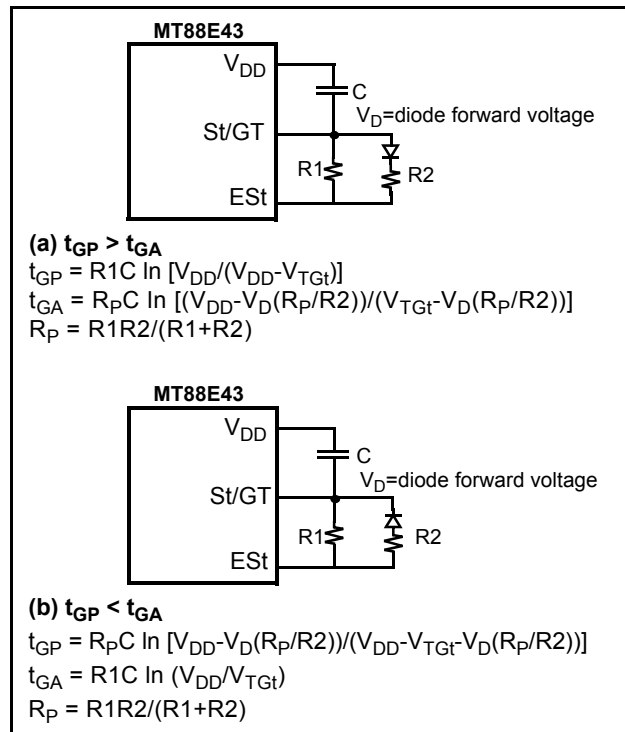
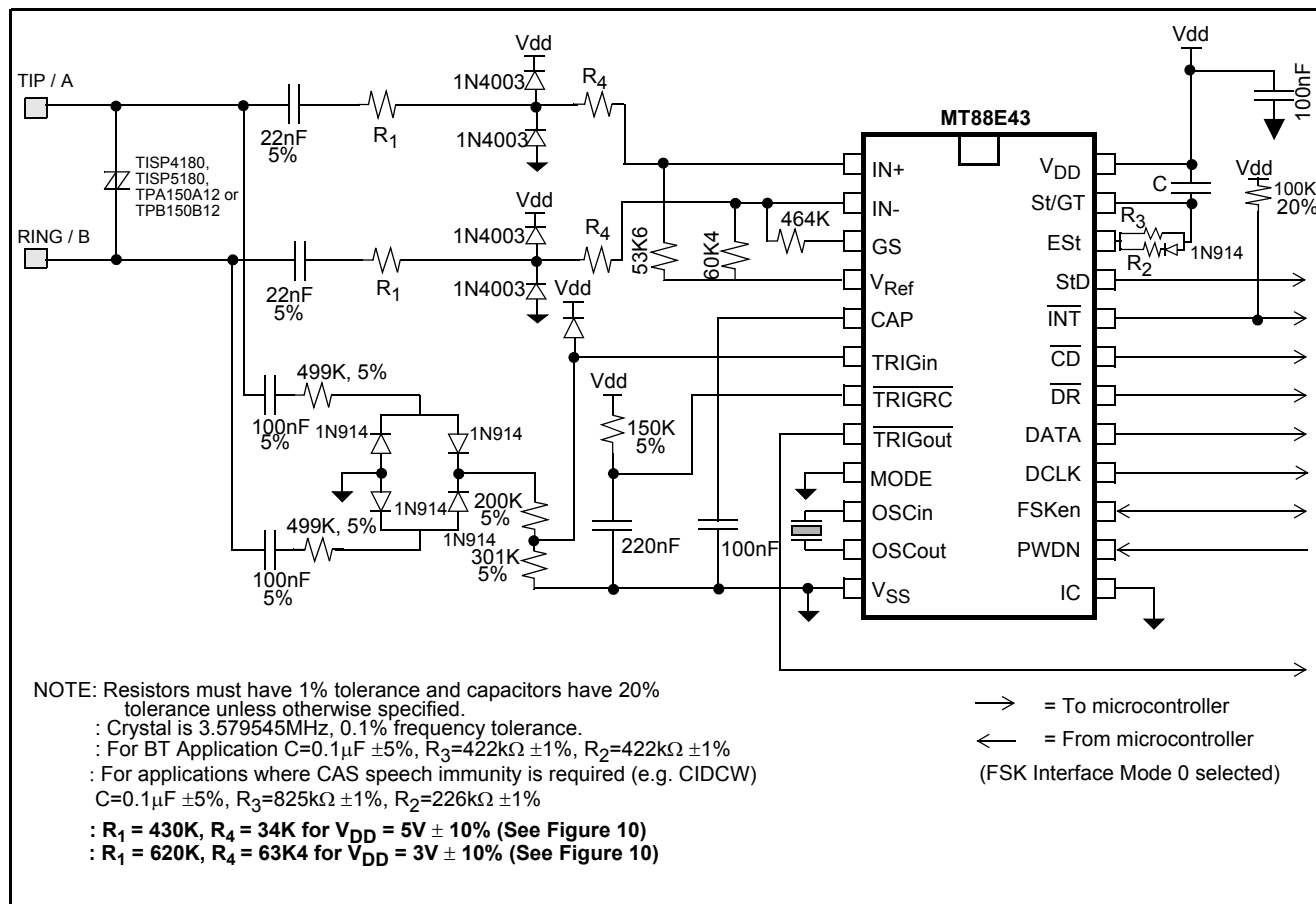
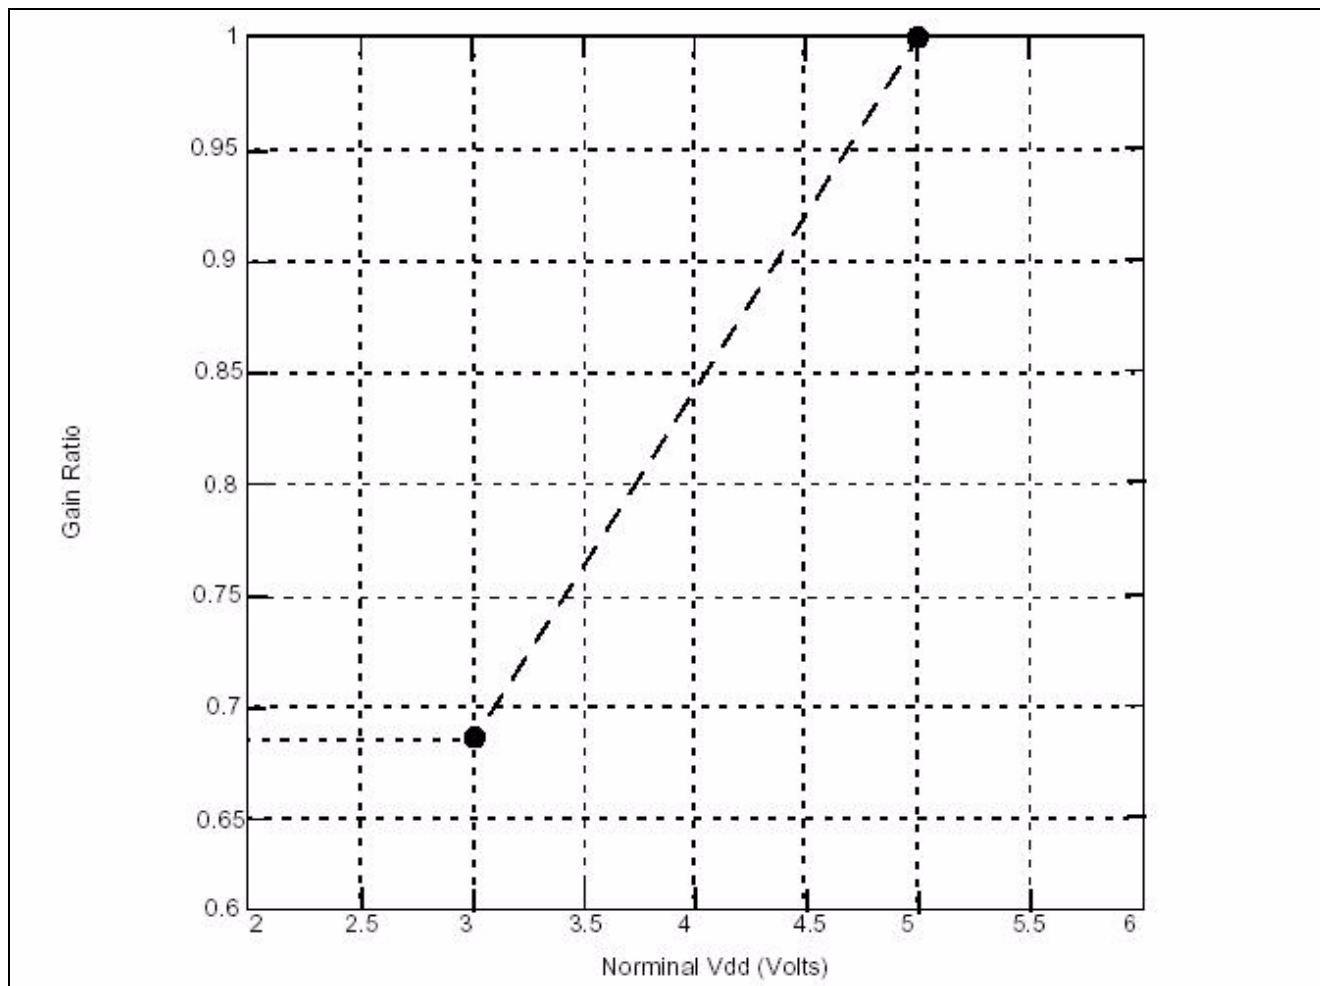

Figure 5 - Guard Time Circuits with Unequal Times
Figure 9 - Application Circuit
Figure 10 - Gain Ratio as a function of Nominal Vdd
BT specifies that the idle state tone alert signal recognition time should not be less than 20 ms when both tones are used for detection. That is, both tones must be detected together for at least 20 ms before the signal can be declared valid. This requirement can be met by setting the t_{GP} (refer to Figure 5) to at least 20 ms.
BT also specifies that the TE is required to apply a D.C. wetting pulse and an AC load 15-25 ms after the end of the alerting signal. If $t_{ABS}=t_{DA}+t_{GA}$ is 15 to 25 ms, the D.C. current wetting pulse and the A.C. load can both be applied at the falling edge of StD. The maximum t_{DA} is 8ms so t_{GA} should be 15-17 ms. Therefore, t_{GP} must be greater than t_{GA} . Figure 5(a) shows a possible implementation. The values in Figures 9 and 11 ($R_2=R_3=422K$, $C=0.1\mu F$) will meet the BT timing requirements.
The circuits shown in Figures 9 and 11 are application circuits for the MT88E43. As supply voltage (V_{DD}) is decreased, the threshold of the device's tone and FSK detectors will be reduced. Therefore, to meet the BT or Bellcore tone reject level requirements the gain of the internal opamp should be reduced according to the graph in Figure 10. For example when $V_{DD}=5V$ (+/- 10%), R_1 should equal 430 k Ω and R_4 should equal 34 k Ω ; and if $V_{DD}=3V$ (+/- 10%) R_1 should equal 620 k Ω and R_4 should equal 63.4 k Ω . Resistors R_1 and R_4 are shown in Figures 9 and 11.
The circuit shown in Figure 9 illustrates the use of the MT88E43 in a proprietary system that doesn't need to meet FCC, DOC, and UL approvals. It should be noted that if glitches on the tip/ring interface are of sufficient amplitude, the circuit will falsely detect these signals as ringing or line reversal.
Note: In the application circuits shown in Figures 9 and 11, the Gain Ratio of MT88E43 opamp is
3. With gain setting as shown in Figure 10. Production tested at $3V \pm 10\%$, $5V \pm 10\%$.